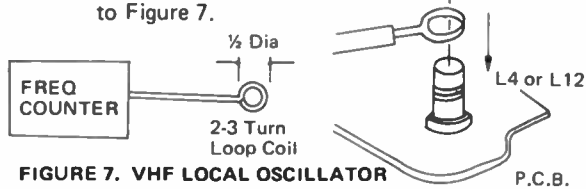

FIGURE 7. VHF LOCAL OSCILLATOR P.C.B.
- Step 2:** Couple the frequency counter thru a pick-up coil to oscillator coil L4 (Lo Bänd) or L12 (Hi Band) in the tuner front end section. Refer to Figure 7.